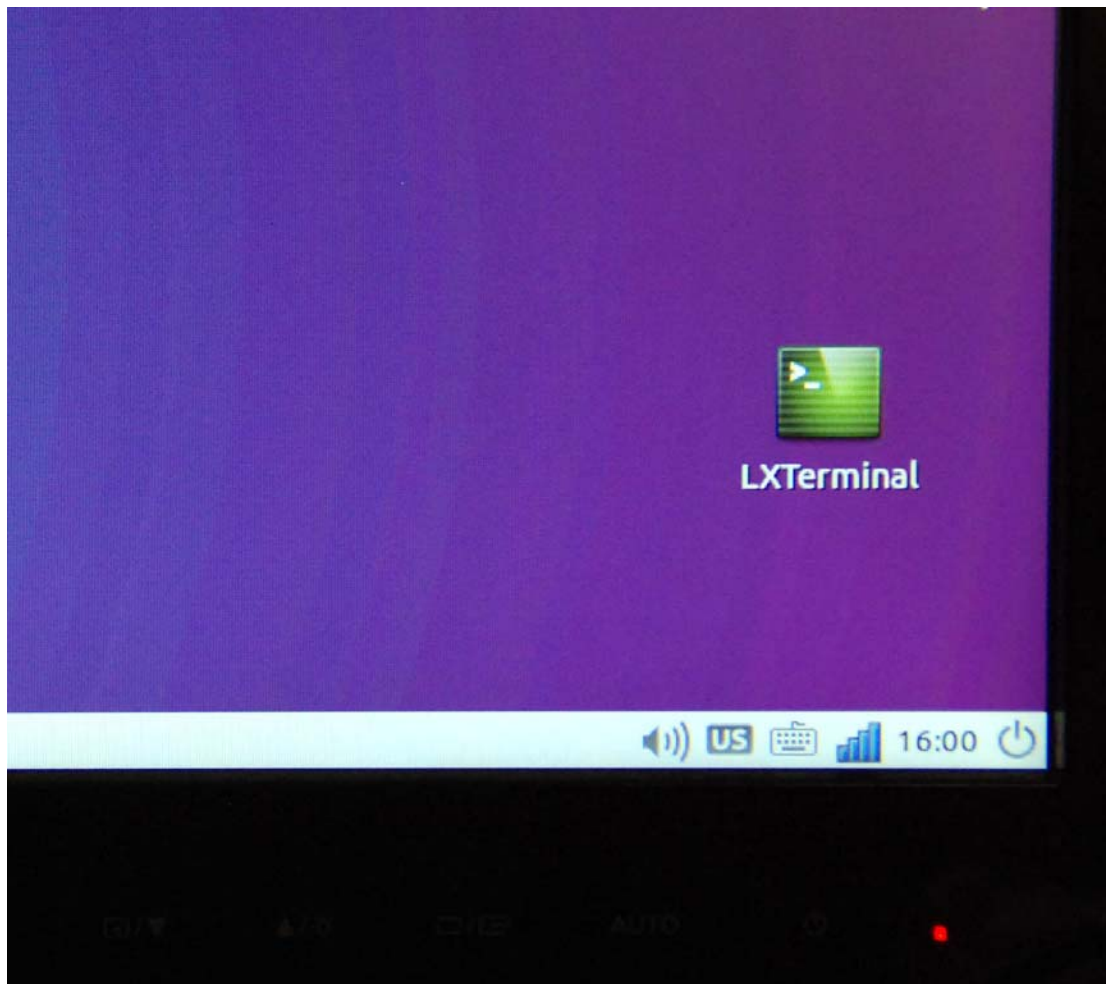

Figure 7 – The Desktop is a good location to keep LXTerminal handy to use for opening the TERMINAL mode.
- Double-click on the TERMINAL application icon (shown in **Figure 7** after you have dragged the icon to your toolbar on your desktop). Alternatively, the user can right-click on LXTerminal and select OPEN.
- Open the LXTerminal tool shown in **Figure 7**.